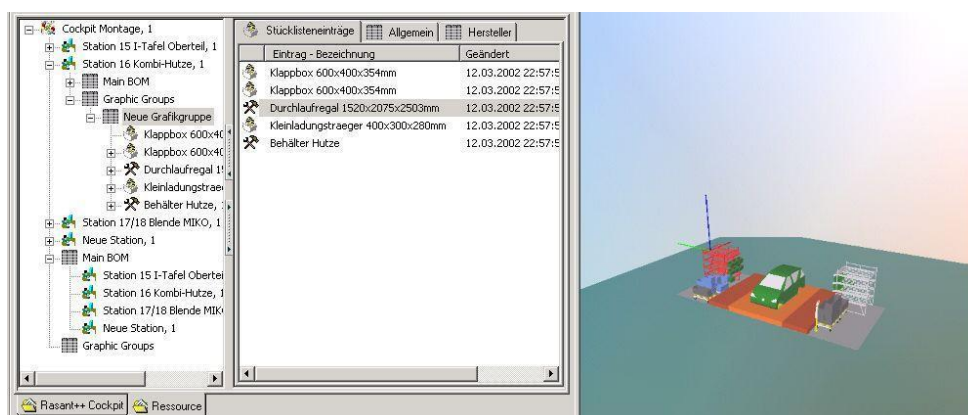

Figure 84: Edit Graphic Group: Selected Object
You can use the entire range of graphic tools to edit a graphic group. The objects or the graphic group can be selected in the right display window. Thus, you can edit the objects of a graphic group or the entire graphic group. Please refer to the Figure 84.
- 1) To display each single object in a graphic group in the window on the right, select the graphic group (in the screenshot, it is the New graphic group) under *Graphic Groups* in the bill of materials structure (left window). Select the object you want to edit in the right display window. The selected object (in the screenshot it is the live storage rack) will be displayed in the selection color and can be edited (*Please refer to the Figure 84*).